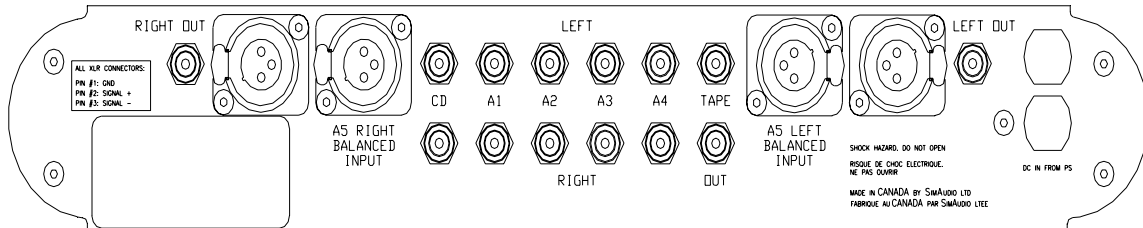

Figure 2: Rear panel of Moon P-5 Dual-Mono Preamp
The rear panel will look similar to Figure 2 (above). There are five pairs (5) of single-ended (unbalanced) inputs on RCA connectors labeled CD, A1, A2, A3 and A4. The left channel inputs are located on top and the corresponding right channel input are located directly below. A sixth input, labeled A5, is for balanced operation and on a pair of XLR connectors. As a result of both space limitations and a circuit board layout intended to maintain the shortest possible signal path length, these balanced inputs are located on either side of the single-ended RCA input connectors. The A4 input, as previously mentioned, bypasses the gain stage and is intended to be used with a component, such as a home theater processor, that has its own volume/gain control.